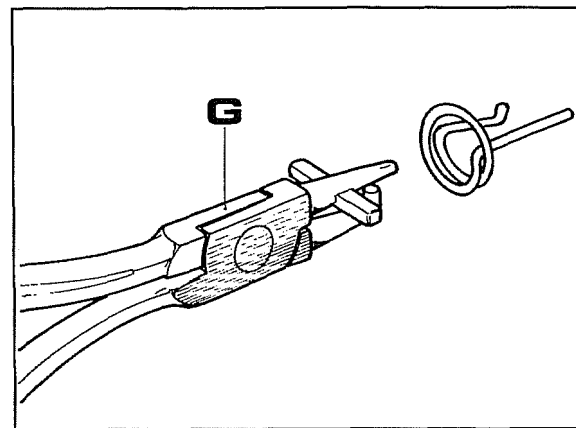

Fig. 14
- Use the special tool **G** Fig.14 to facilitate spring **R** Fig.8 insertion.